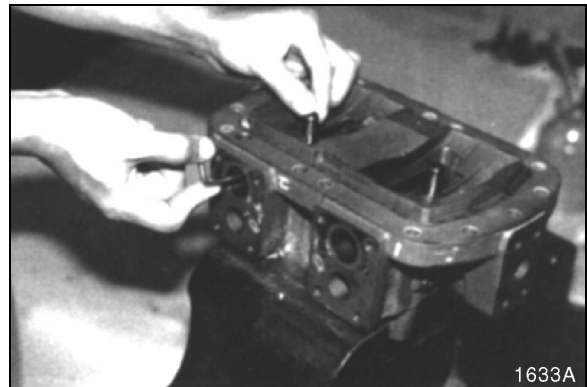

Figure 40
12. Remove stop screws. See Figure 40.